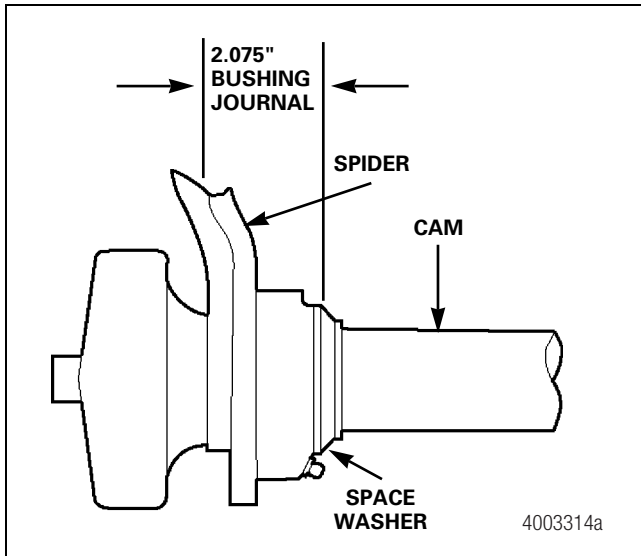

Figure 11.13
- Cams with heat-treated journals are used with metal sleeve bushings. A spacer washer is used to make up the difference in width between the cam bushing and journal. Figure 11.13.